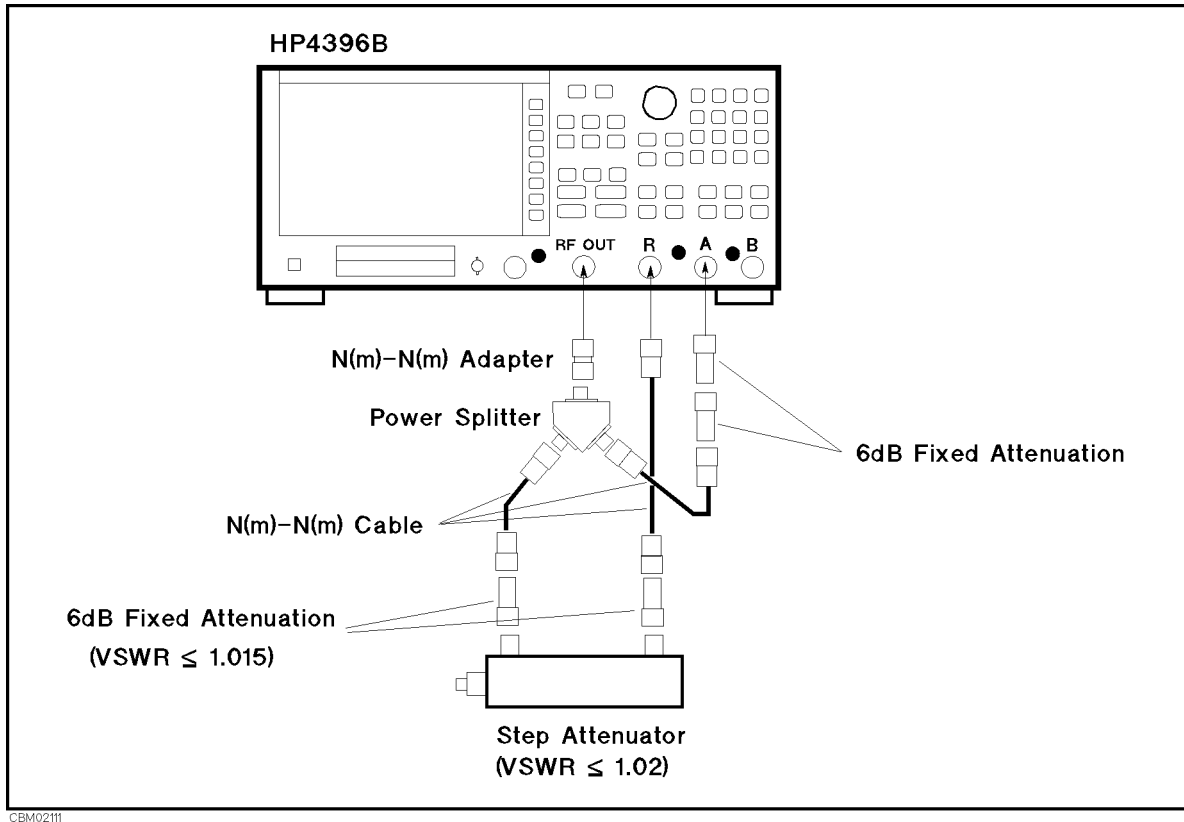

Figure 2-12. A/R Magnitude Ratio/Phase Dynamic Accuracy Test Setup 1
- a. Connect the test equipment as shown in Figure 2-12.